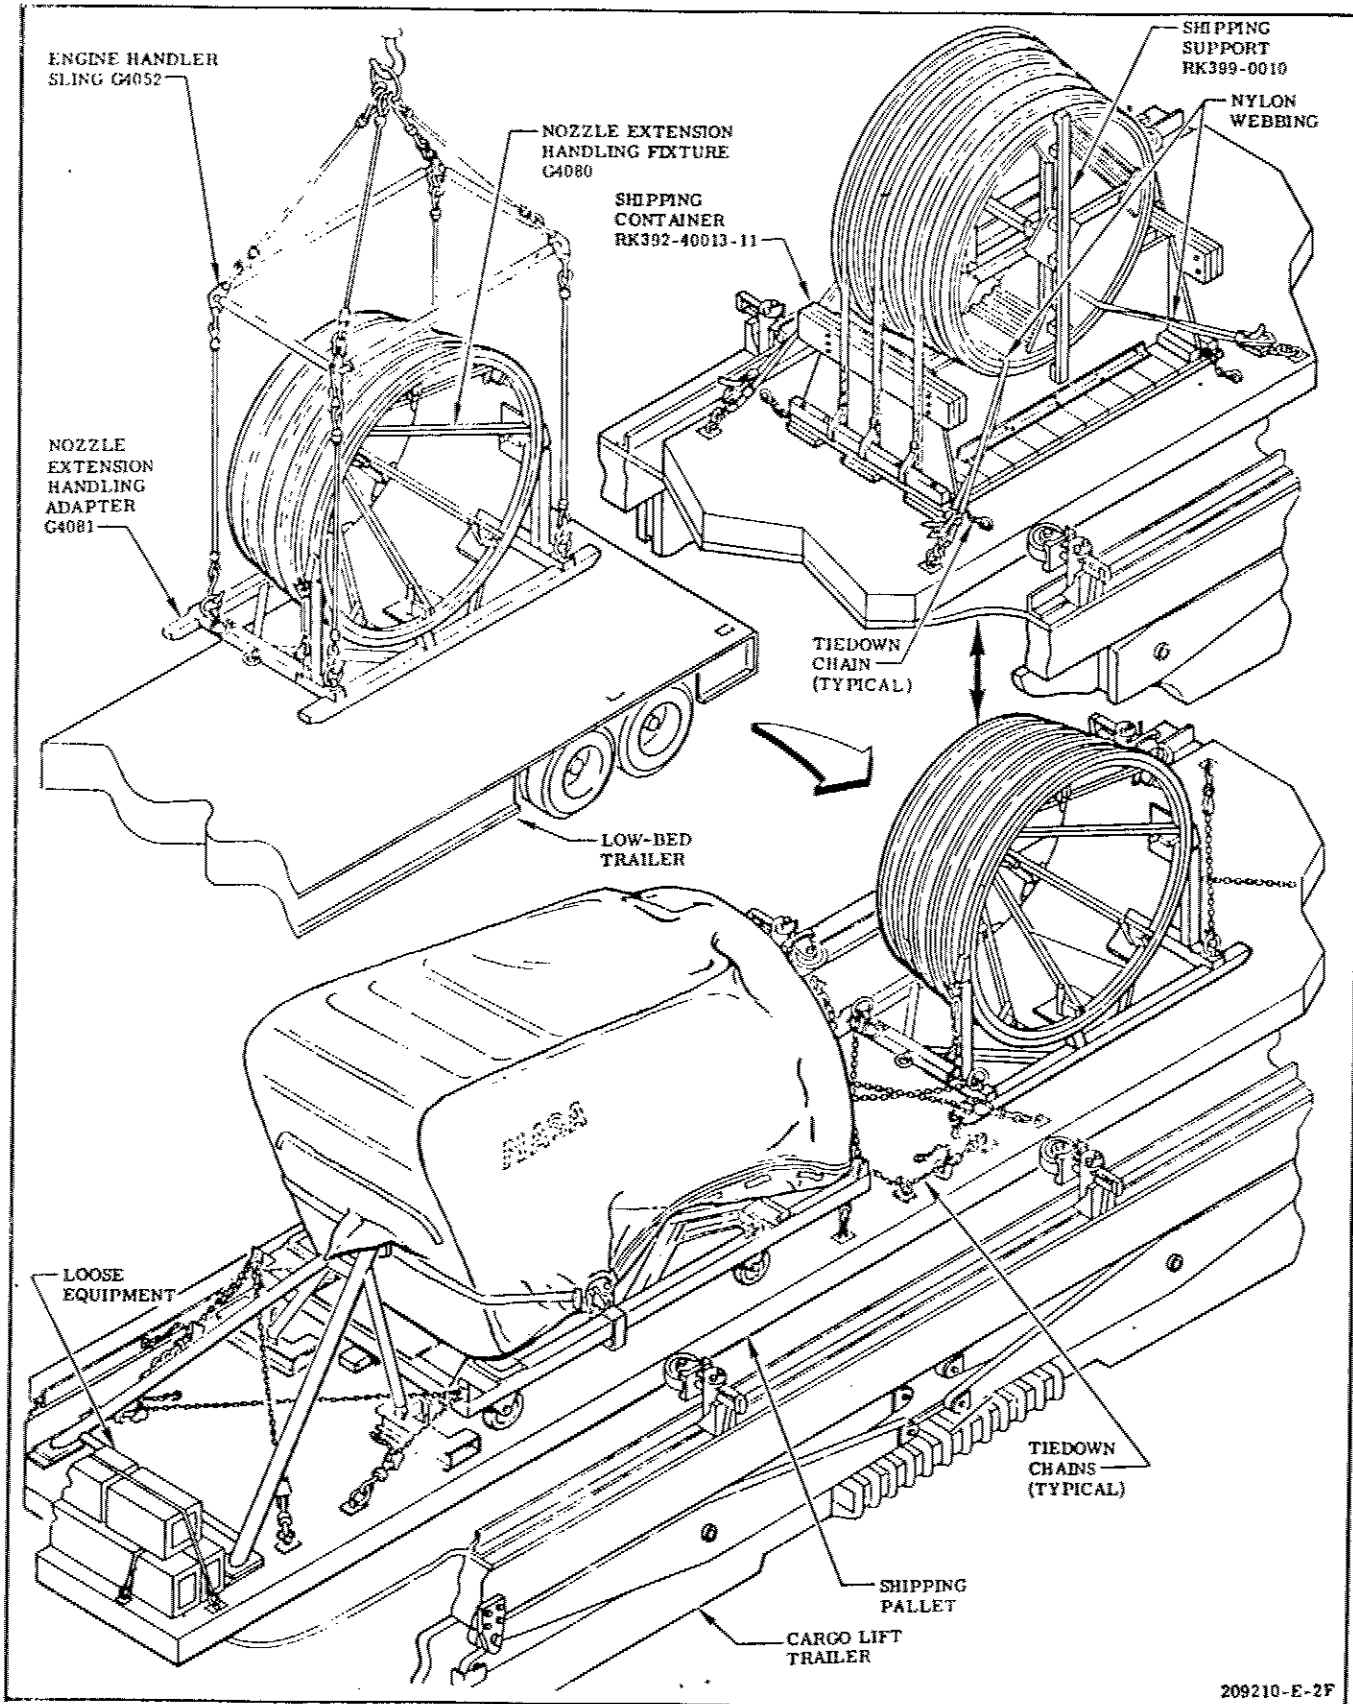

Figure 3-4. Loading Nozzle Extension and Miscellaneous Loose Equipment on Shipping Pallet
- e. Secure assembly to pallet as shown in figure 3-4.
### 3-11. LOADING NOZZLE EXTENSION ON SHIPPING PALLET. (See figure 3-4.)
**3-13. LOADING SHIPPING PALLET INTO AIRCRAFT.** (See figure 3-4.)